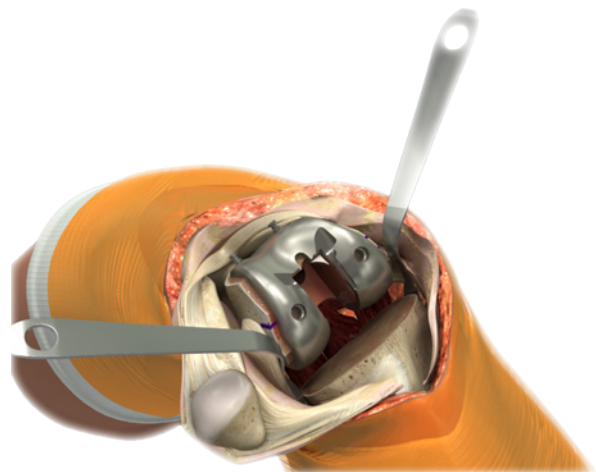

Figure 21b
7. Select the appropriate sized femoral trial PS Cam Module (matching the Femoral Trial size selected). Insert the arms of the femoral trial PS Cam Module into the anterior aspect of the Femoral Trial box and push posteriorly until seated (Figure 21b).